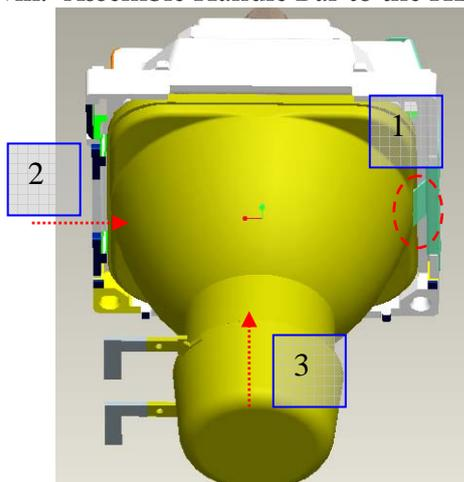

Fig. 1-13
- (A) Insert lamp into HLD Lamp Lamp and touch to the Mesh Lamp (Fig. 1-13).
- (B) Push lamp slightly to the right side (Fig. 1-13).
- (C) Then push Lamp forward to touch DTM Lamp of HLD Lamp (Fig. 1-13).
- ii. Insert Lamp into HLD Lamp Lamp and push Lamp forward to touch DTM Lamp of HLD Lamp (Fig. 1-13).